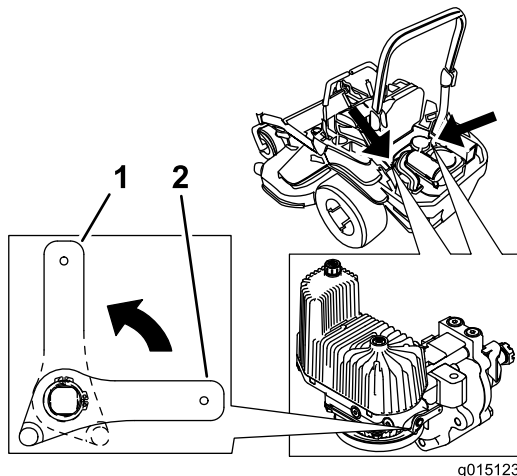

Figure 34
2. Rotate the release valve levers vertically to push the machine. This allows hydraulic oil to by-pass the pump enabling the wheels to turn (Figure 34).
4. Rotate the release valve levers horizontally to run the machine (Figure 34).